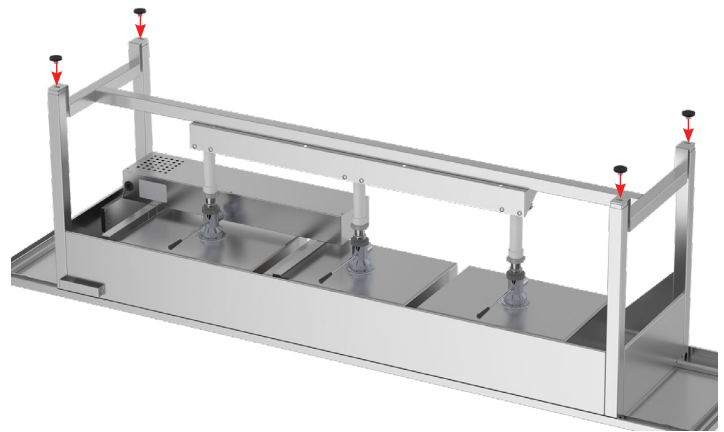

Fig. 38: Reinstall foot levelers
3. Attach and screw in the foot levelers into each leg (Fig. 38).